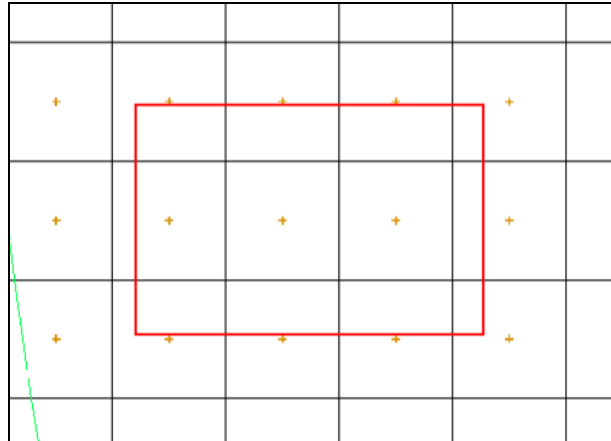

Figure 2 Arcs to be created on boundary of local model
5. Create one arc to form a rectangle on top of (or close to) the red rectangle in Figure 2. If the red rectangle isn't visible, the user needs to toggle on “Annotation Data” in Project Explorer.